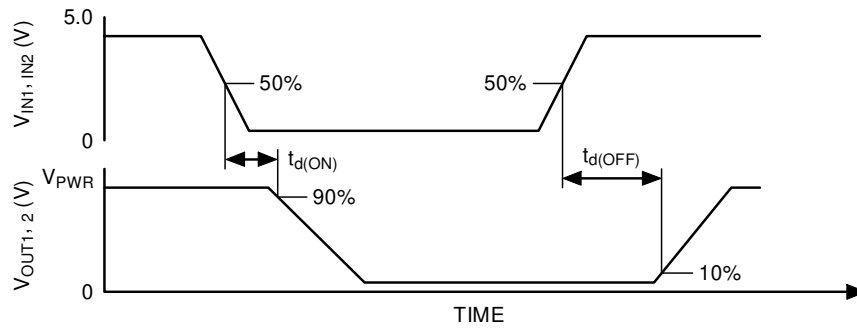

Figure 4. Output Delay Time
23. Output Delay is the time duration from the midpoint of the IN1 or IN2 input signal to the 10% or 90% point (dependent on the transition direction) of the OUT1 or OUT2 signal. If the output is transitioning High-to-Low, the delay is from the midpoint of the input signal to the 90% point of the output response signal. If the output is transitioning Low-to-High, the delay is from the midpoint of the input signal to the 10% point of the output response signal. See Figure 4, page 8.